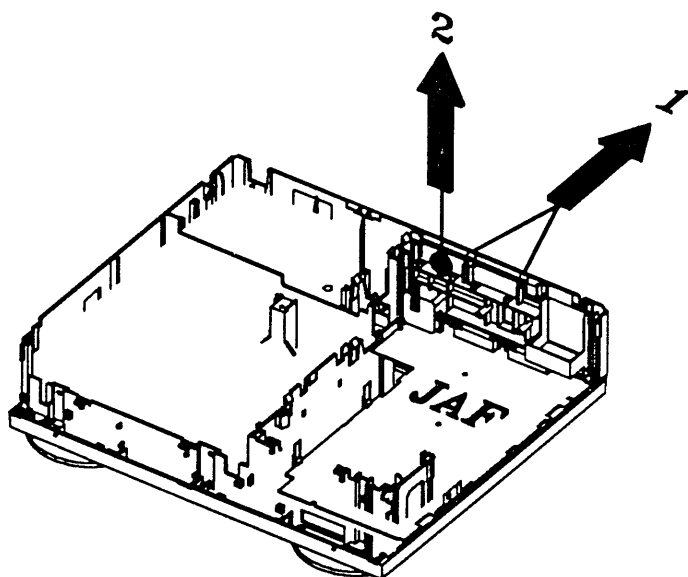

Fig. 8
- The socket mounting can be removed by pressing the rear wall backwards (see fig. 8).